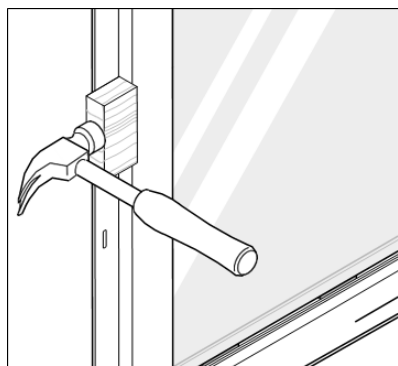
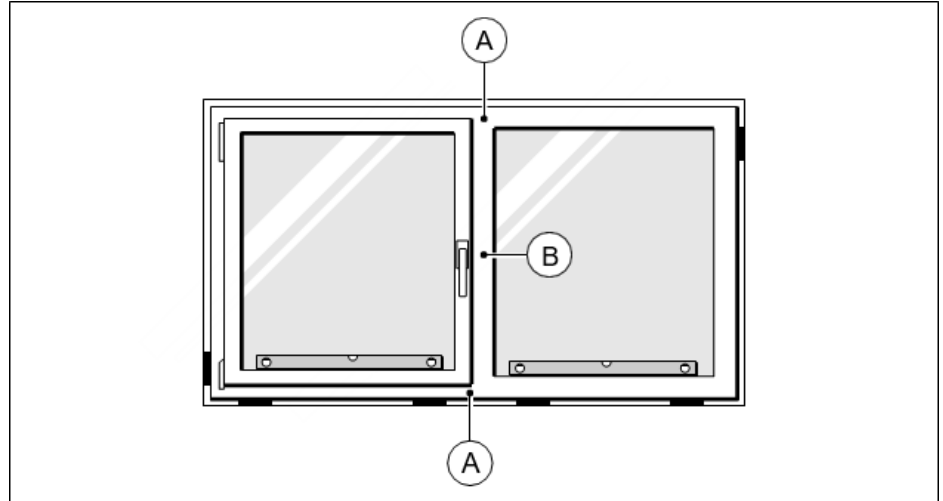

Figure 2-12. How to straighten a bowed frame
Figure 2-15. Where sashes sometimes bind
- 6.2 If the sash hardware binds at the top jam lock or at the bottom handle side, the frame may not be level, or it may be out of square. See fig. 2-15 Item A. Use a level and make sure that the sill is level and that the mullions and jambs are square. If the frame is not level or square, adjust the thickness of the shims to make it level and square.
- 6.3 If the sash hardware binds at the midpoint either the sash or the mullion became bowed during handling or installation. See fig. 2-15 Item B. Use a straight edge and make sure that the sash and the mullion are not bowed. If either the sash or the mullion are bowed, make them straight as shown in fig. 2-12.